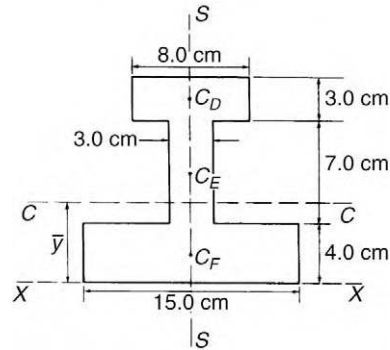

Figure 7.32
Problem 19. (a) Determine the second moment of area and the radius of gyration about axis XX for the I -section shown in Figure 7.32.
- (b) The centroid of the I-section will lie on the axis of symmetry, shown as SS in Figure 7.32. Using a tabular approach: